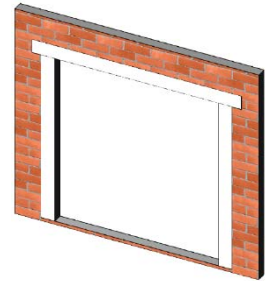

Figure 34:
2. At each jamb, embed the flashing paper into the sealant onto mounting flange and fasten into place. The flashing paper should be cut sufficiently long enough to extend at least 3 in. past the weep-screed or diado flashing and at least 6 inches above the head of the window (Figure 34).